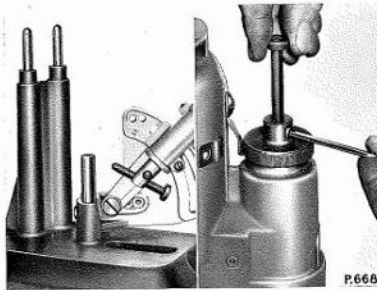

Fig. B.12. Valve seat grinder details
the dressing fixture, on which the grinder seats, via two pilots (see Fig. B.12) and a guide which passes up through the head of the grinder. Set the diamond dressing tool to an angle of 45° as indicated on the scale, energise the motor and dress the grinding wheel.
**Operating the Valve Seat Grinder.** Locate the grinder over the expanding pilot and release the Allen screw positioned directly above the grinding wheel feed adjusting screw. Push down the depth rod against the top of the pilot (see Fig. B.12) and then lock the Allen screw tightly.